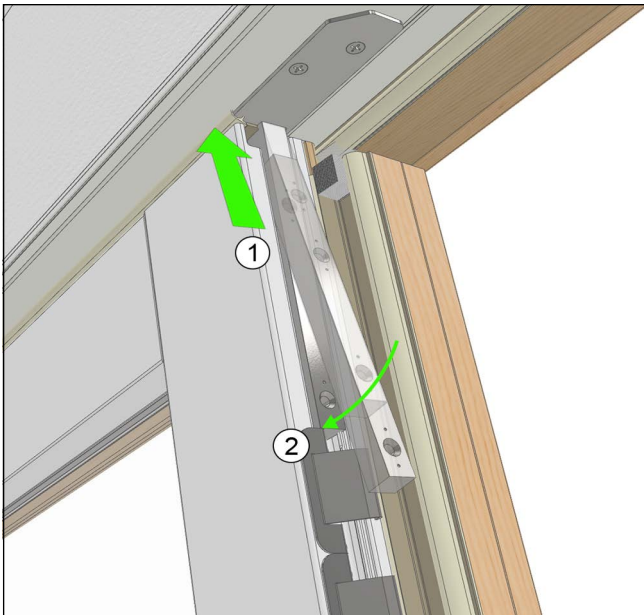

Figure 12
3. Seat the lock bar into the panel Eurogroove and up into the head jamb strike aligning top hole on lock bar to the removed screw hole already in the panel. See Figure 12. Be mindful not to overshoot the bolt as this will cause the head jamb to bow upward.